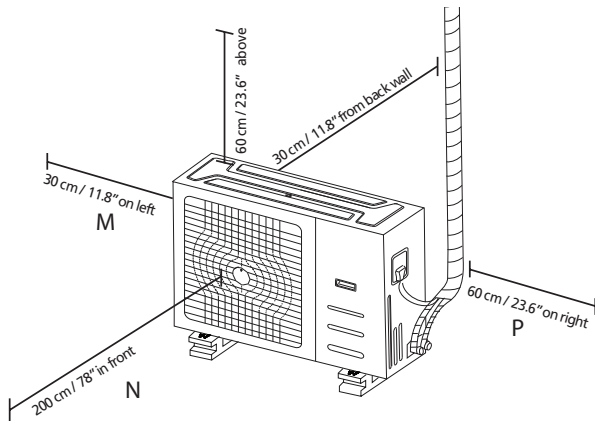

Fig. 6.10
**NOTE:** The minimum distance between the outdoor unit and the walls described in the installation guide does not apply to airtight rooms. Be sure to keep the unit unobstructed in at least two of the three directions (M, N, P). (See Fig. 6.10.)